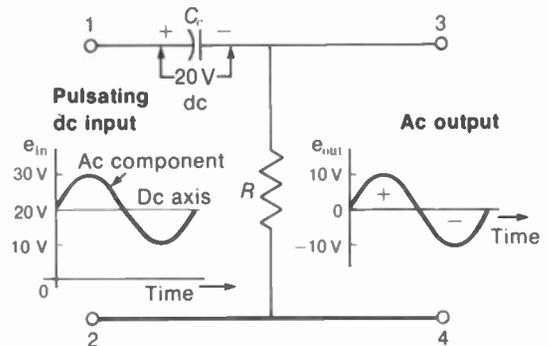

FIGURE 14-4 HOW  $C_c$  BLOCKS THE AVERAGE DC LEVEL OF A FLUCTUATING DC VOLTAGE.
Refer to Fig. 14-4, where  $C_c$  is a coupling capacitor with its series  $R$  to form an  $RC$  coupling circuit. The signal applied to terminals 1 and 2 is a pulsating or fluctuating dc voltage. It varies between 10 and 30 V with an average of 20 V. This average value is the steady dc level. The variations of  $\pm 10$  V around this axis form the ac component.  $C_c$  will charge to the steady dc level of 20 V because this value is the average charging voltage. As a result, the steady dc component is blocked, since it cannot produce voltage across  $R$ . The ac component, however, is developed across  $R$  between output terminals 3 and 4. Note that the zero axis of the ac voltage output across  $R$  corresponds to the average axis of the fluctuating dc voltage input.
**The dc component across  $C_c$ .** The voltage across  $C_c$  is the steady dc component of the input voltage because the variations of the ac component are symmetrical above and below the average level. Furthermore, the series resistance is the same for charge and discharge. As a result, any increase in charging voltage above the average level is counteracted by an equal discharge below the average. In Fig. 14-4, for example, when  $e_{in}$  increases from 20 to 30 V, this effect of charging  $C_c$  is nullified by the discharge when  $e_{in}$  decreases from 20 to 10 V. At all times, however,  $e_{in}$  has a positive value that charges  $C_c$  in the polarity shown.
**Polarity of the ac component.** In Fig. 14-4, when  $e_{in}$  is above 20 V, the charging current produces electron flow from the low side of  $R$  to the top, adding electrons to the negative side of  $C_c$ . The voltage at the top of  $R$  is then positive. When  $e_{in}$  decreases below the average level,  $C_c$  loses charge. The discharge current then is in the opposite direction through  $R$ . The result is negative polarity for the ac voltage coupled across  $R$ .
**Voltages around the  $RC$  coupling circuit.** If you measure the pulsating dc input voltage across points 1 and 2 in Fig. 14-4 with a dc voltmeter, it will read the average level of 20 V. A voltmeter that reads only ac values across these same points will read the fluctuating ac component, equal to 7 V rms.
7. Referring to the  $RC$ -coupling circuit in Fig. 14-4, how much would a dc voltmeter read across  $C_r$  and across  $R$ ?